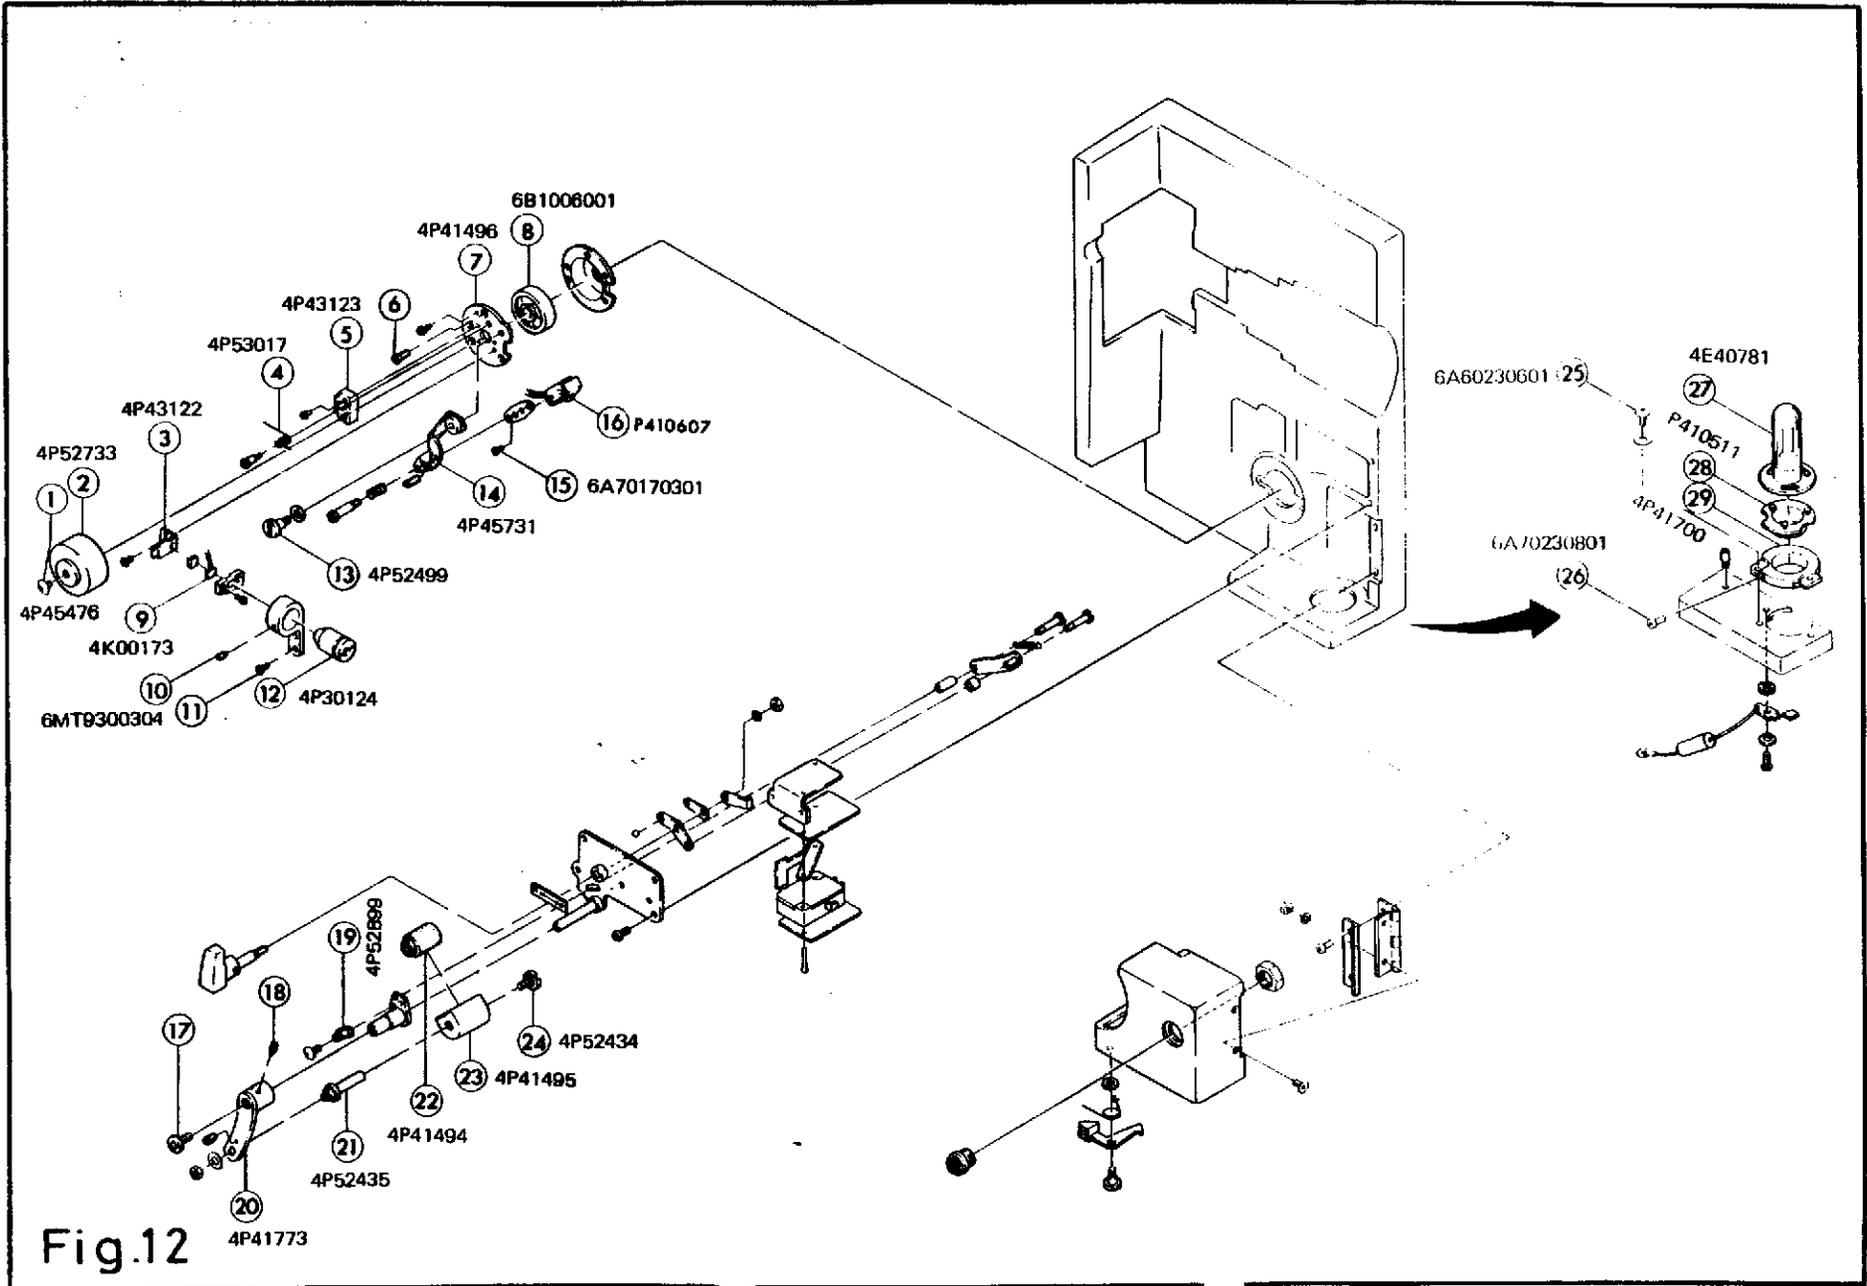
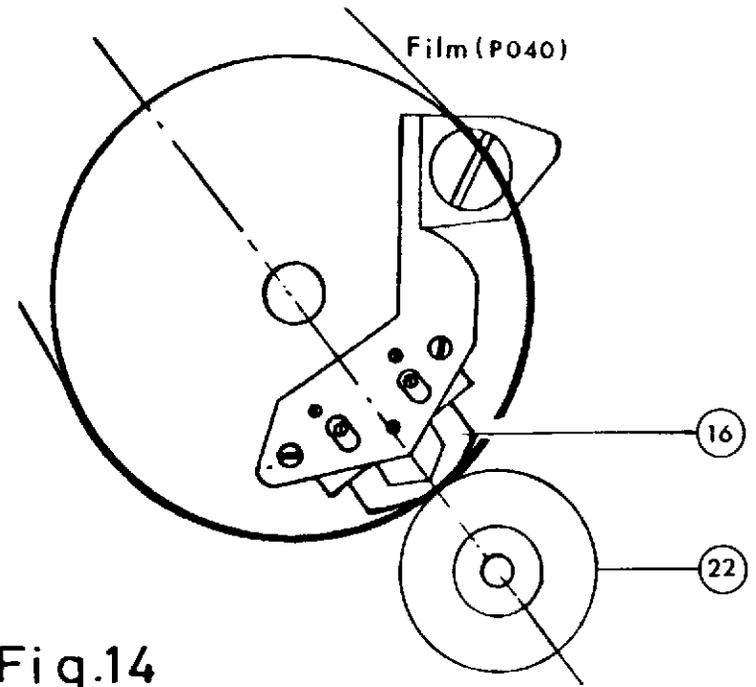

Fig.12
Fig.14
TRUBLESHOOTING: Refer to Fig. 12.
1. Unscrew (13) to remove (14).
2. Unsolder two wires connected with (5) to remove an assembly of (3).
3. Disassemble further referring to Fig. 12.
- d. Refer to Fig. 12 to remove the parts relative to the exciter lamp socket.
2. Refer to Fig. 14. Adjust the position of (21) in Fig. 12 where a gap of (16) aligns with a center line of (22).